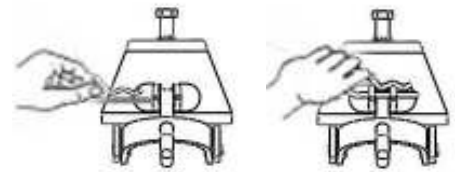

Figure 9
6. Secure spring bar chain connection by inserting Rapid Hook-Up Spring Pin (7) on Rapid Hook-Up (9). See Figure 9.